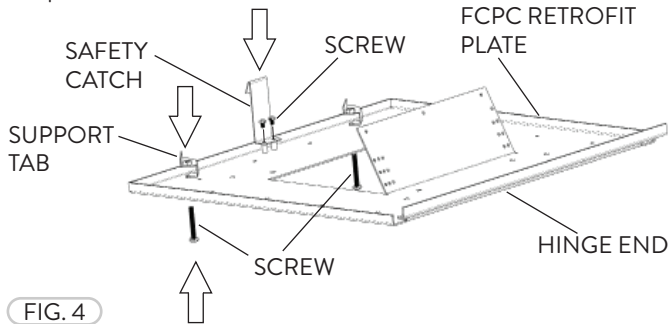

FIG. 4
- 1 The Retrofit 2' x 2' Kit is available for all FCPC fixtures and includes the Retrofit Plate, Safety Catch, Support Tabs, and fasteners (Fig. 4). The original housing of the fixture can be used. Power off and detach all related wiring. Remove the old luminaire, lens, reflector, and ballast prior to installation.